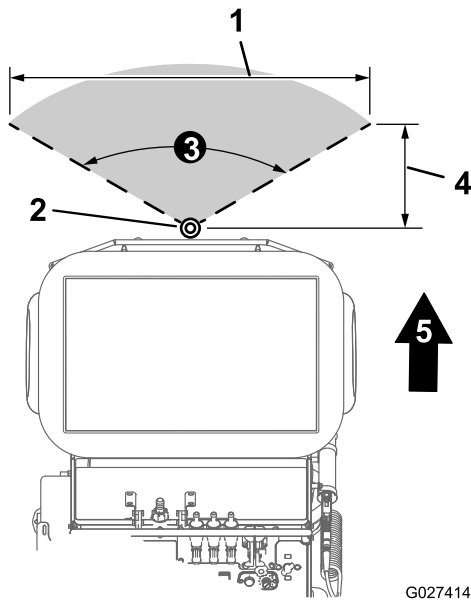

Figure 39
- The narrow spray pattern (Figure 39) on the machine is **122 cm (48 inches)** wide.